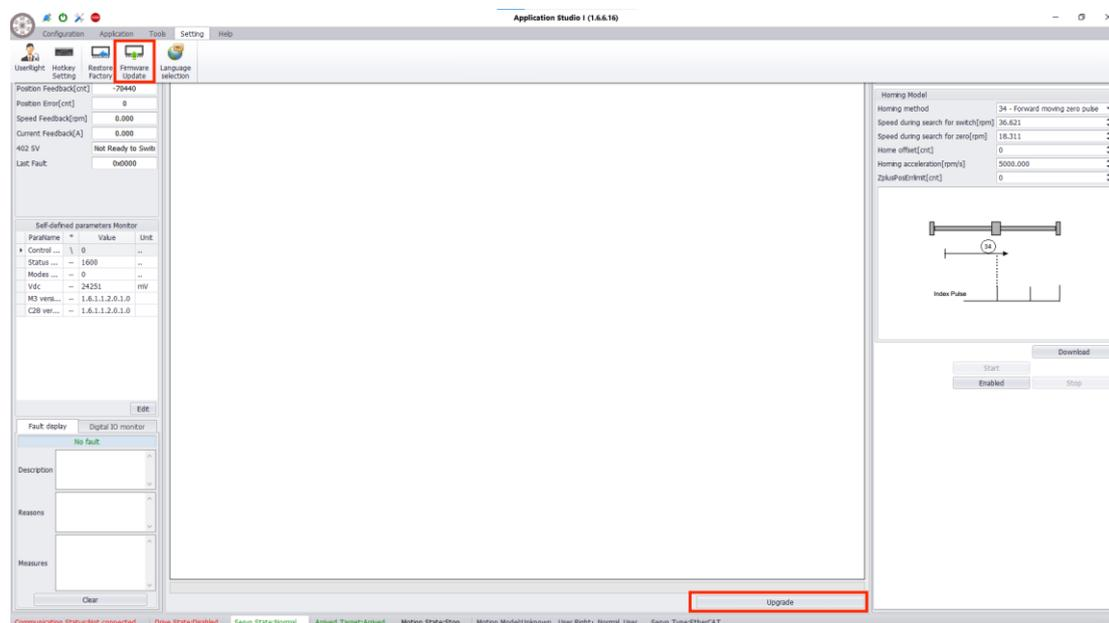

Figure 5-16 Firmware upgrade
1. Select "**Setting**" in the main menu, and click "**Firmware Updata**" to open the firmware upgrade interface, as shown in Figure 5-16.